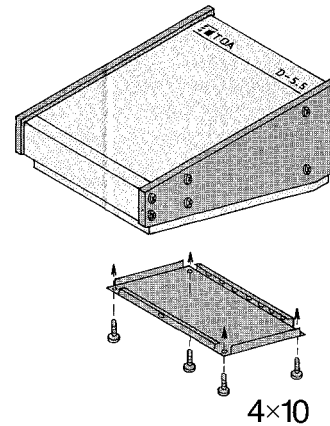

Fig 1
2. Remove the four screws that secure the bottom panel to the main chassis, and carefully remove the panel (See Fig 1)